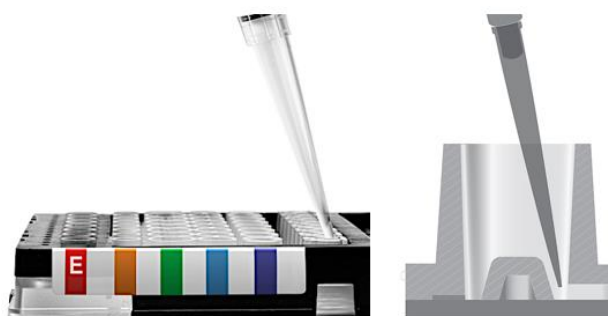

Figure 10. Sample recovery technique
3. Set a 200 μ L pipette to 200 μ L. While using the thumb/forefinger to reinforce the seal on the well in Column 5, aspirate slowly from the bottom right side of the sample well of the non-initiated sample where the well and channel meet (see **Figure 10**) and transfer to a new microtube.